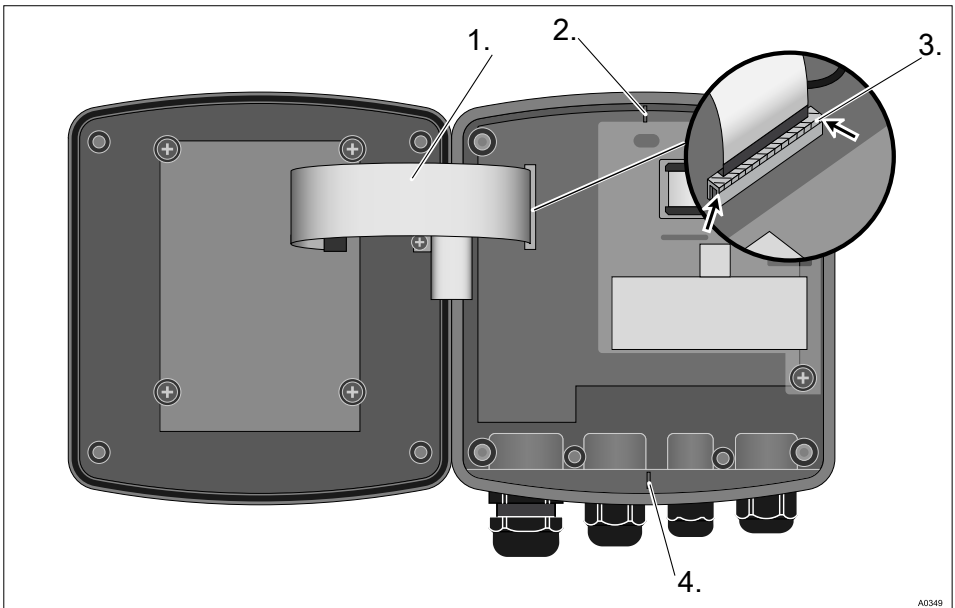

Fig. 6: Loosening the ribbon cable
The base for the ribbon cable is firmly soldered onto the PCB. The base cannot be removed. Open the base lock (3) to loosen the ribbon cable, see Fig. 6